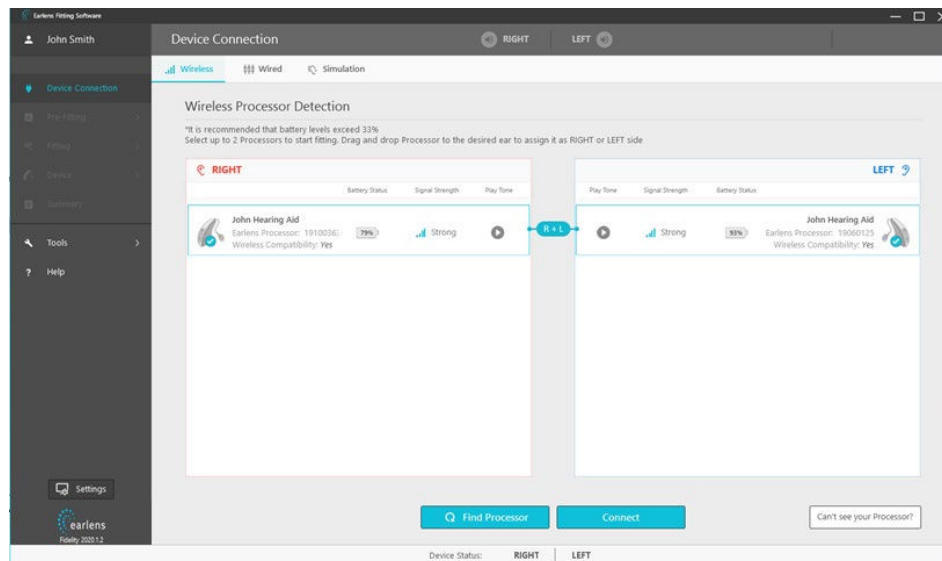

Figure 21: Device Connection screen: wireless
- i. Drag and drop the listed Processor(s) to the desired ear. Select both Processors to link ears. You can confirm serial number assignment to the appropriate ear(s) by playing tones if desired (Figure 21).
- j. Click "Connect" (Figure 21).